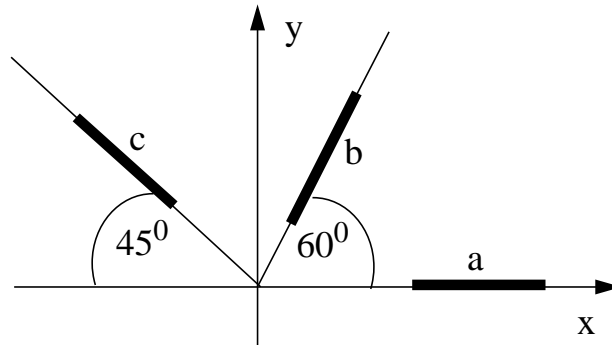

Fig. P9.60
9.60 At a point on a free surface of aluminum ($E = 10,000$ ksi and $G = 4,000$ ksi) the strains recorded by the three strain gages shown in Fig. P9.60 are as given. Determine the stresses σ_{xx} , σ_{yy} , and τ_{xy} .